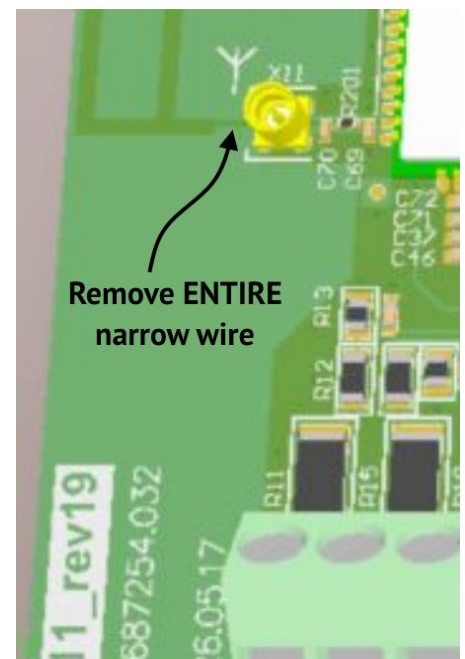

Figure 6. How to prepare the PCB rev.19 for connecting an external antenna
- On revision 19 PCB – with a sharp knife, remove the entire narrow wire located **AFTER** the external antenna connector **X11** (next a wide built-in antenna begins, Figure 6);